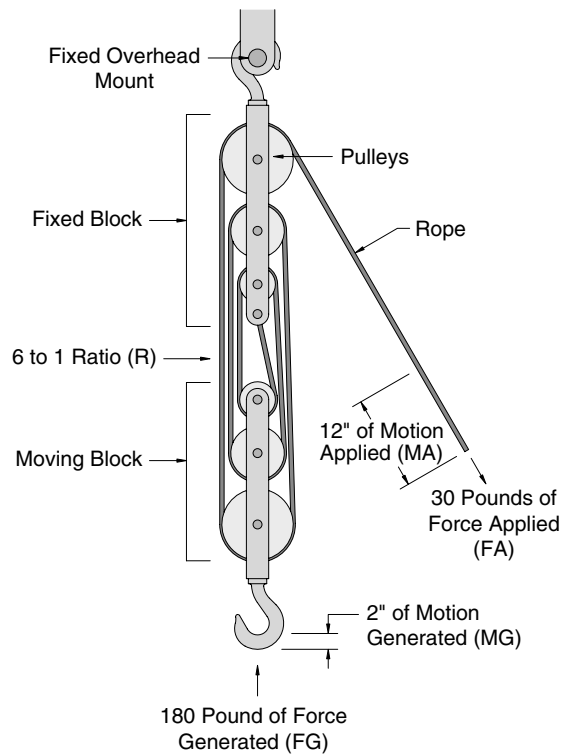

Figure 2-14 Block and Tackle
By arranging pulleys in a progressive manner, significant mechanical advantage can be realized. Figure 2-14 shows a typical block and tackle intended to provide higher lifting force. To determine the lifting force for a block and tackle, divide one by the number of vertical ropes between the pulleys. The illustration shows a block and tackle arrangement with a 6-to-1 ratio. To calculate the force generated (FG), multiply the applied force (AF) by the ratio.